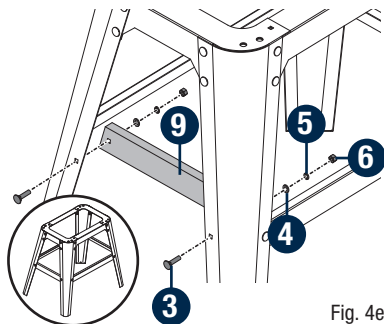

Fig. 4e
- Attach ends of two short lower braces **9** to two frame assemblies using carriage screws M5 x 16 **3**, flat washers **5** **4**, spring washers **5** **5** and hex nuts M5 **6**. (Fig. 4e)